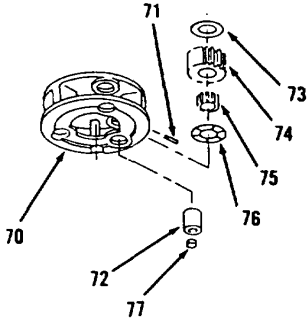

Figure 14-59.
- 19. Install three discs (76), rollers (75), gears (74), discs (73) and shafts (72) in carrier (70), Figure 14-59).